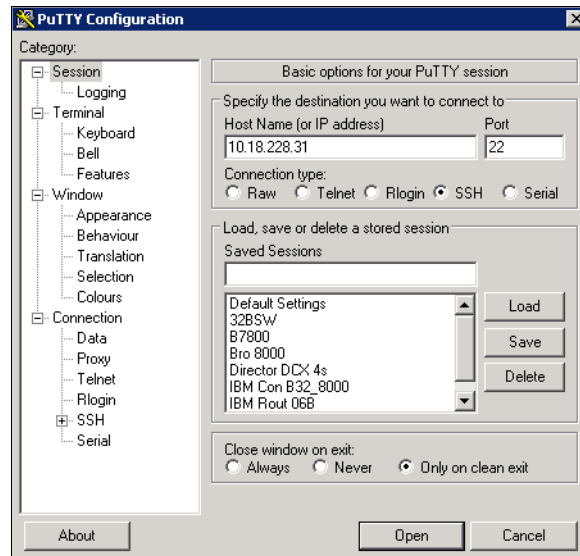

Figure 7-3 Starting a SSH Session
1. Start PuTTY by clicking the desktop icon. The PuTTY Configuration window displays (Figure 7-3).